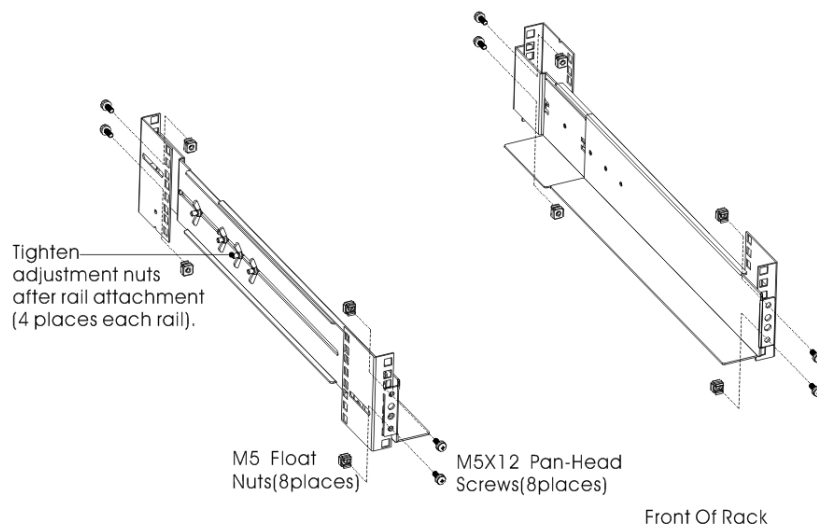

FIG.4 Fixing the Rails
3. Tighten four M5 Butterfly Nuts in the side of rail assembly (see FIG. 4).